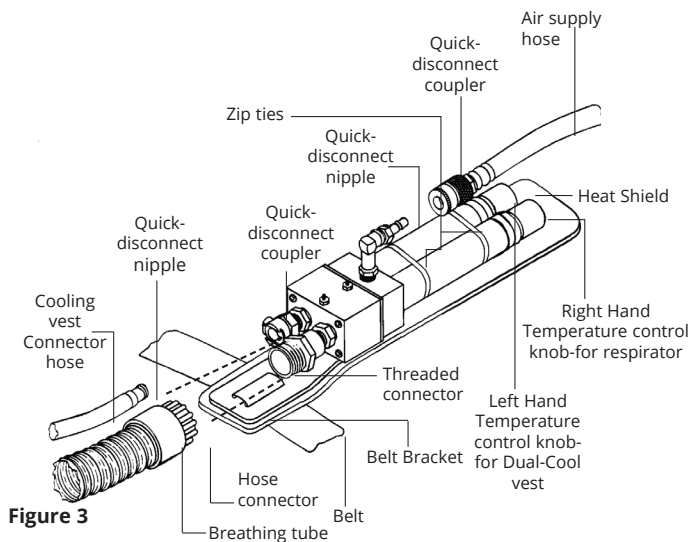

Figure 3
2. Use plastic zip ties (2 included) to secure the climate control to the heat shield. (Figure 3)
1. Screw the hose connector that is on the end of the breathing tube to threaded connector on Dual-Cool. Lace the belt through the slots in the belt bracket (Figure 3).
4. Snap the quick-disconnect nipple found on the end of the cooling vest connector hose into the quick-disconnect coupler on the Dual-Cool (Figure 3).
6. With the approved Bullard air supply hose connected to the breathing air source, and with air flowing into the hose, connect the quick-disconnect coupler on the air supply hose to the quick-disconnect nipple on the Dual-Cool (Figure 3).
1. To obtain cooler air, turn the air temperature control knobs counterclockwise (Figure 3). Maximum cooling is obtained when knobs are open completely and when there is maximum airflow out of the Dual-Cool tube's exhaust ports. To obtain air that is closer to ambient temperature, turn air temperature control knobs clockwise. If knobs are closed completely, your respirator will receive air that is essentially at ambient temperature.
There are separate controls to adjust the temperature of the air that is distributed to the vest and the breathing zone. The one knob controls the air temperature to the respirator; the other knob controls the air temperature to the cooling vest (Figure 3).